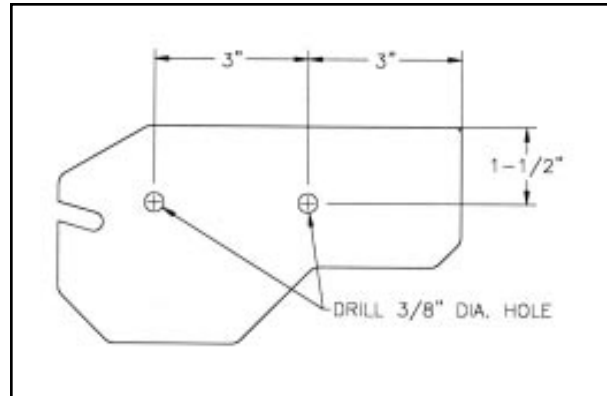

FIGURE 5
c) Locate two center marks for the 3/8" dia. holes on the inside of both adapter frame tube socket bases of the implement adapter (Fig. 5). Drill one 3/8" dia. hole through the adapter frame tube socket base at the center mark. After drilling one 3/8" dia. hole, verify the 3" dimension between the drilled hole and the center